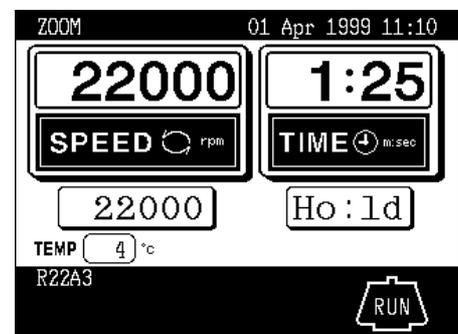

Fig. 3-5-4 ZOOM screen
(2) Changing RUN SCREEN
- ① NORMAL : RUN SCREEN is displayed.
- ② ZOOM : The display automatically turns to ZOOM screen shown in Fig. 3-5-4 when 20 seconds have passed after reaching the set speed. The ZOOM screen returns to the RUN SCREEN by pressing any key on the panel or when the rotor starts deceleration.
(3) Changing date and time